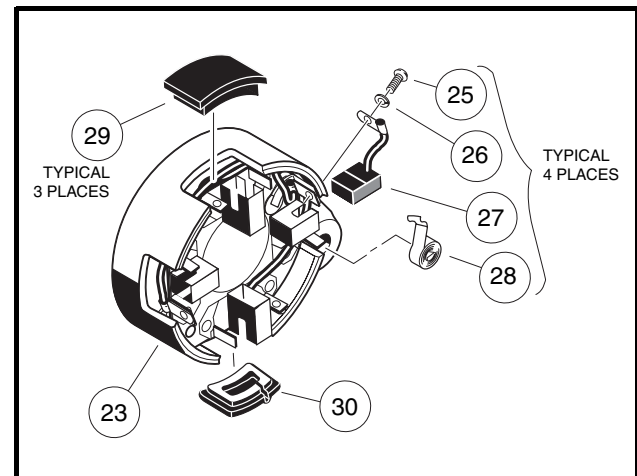
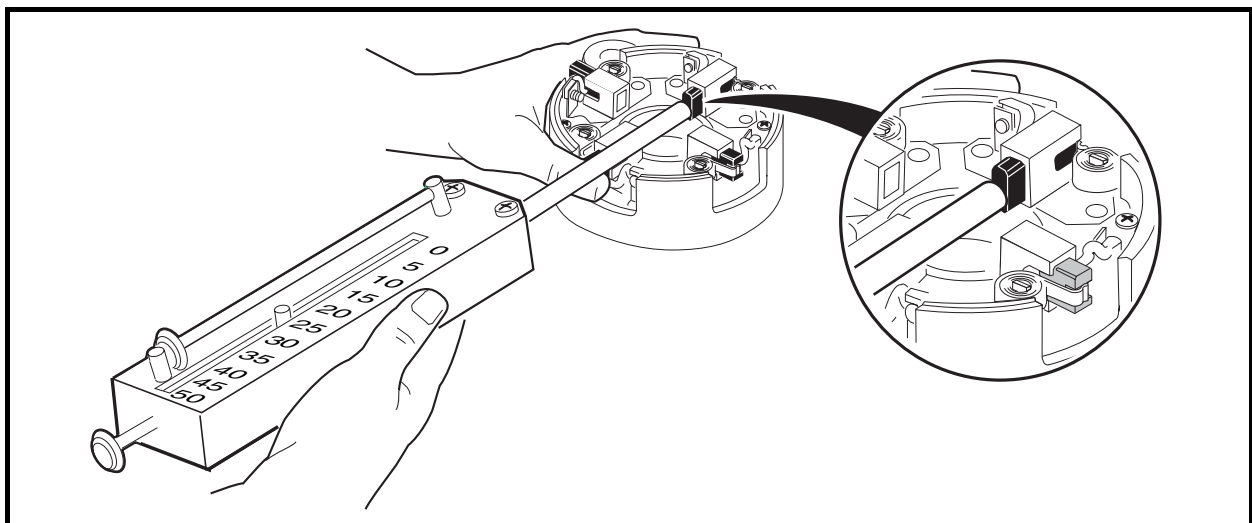

Figure 12-3 Brush Covers and Brushes
Figure 12-5 Brush Spring Tension Test
2. Remove brush covers (29 and 30), screws (25) and lock washers (26), brush springs (28), and brushes (27) (Figure 12-3, Page 12-2). See following NOTE.
2. Install the four brushes (27) into their holders and insert the four brush springs (28) (**Figure 12-3, Page 12-2**). Using a spring scale, test brush spring tension. If any spring has a tension less than 24 ounces (6.67 N), replace all four springs (**Figure 12-5, Page 12-3**). **See following CAUTION.**
1. Connect the brush wires to the holders using four lock washers (26) and four screws (25), making sure the crossover leads are connected also. Tighten the screws to 31 in-lb (3.5 N·m) **(Figure 12-3, Page 12-2)**.
4. Push the brushes down into the holders. Position springs into the notches in the brushes. Install the brush cover (30) that has the drain hole in it next to the A2 terminal. Install the remaining three brush covers (29) in the openings in the commutator end cover (23) **(Figure 12-3, Page 12-2)**.
10. Push the brushes down into the holders. Place springs into the notches in the brushes. Install the brush cover (30) that has the drain hole in it next to the A2 terminal. Install the remaining three brush covers (29) in the openings in the commutator end cover (23) (**Figure 12-3, Page 12-2**).